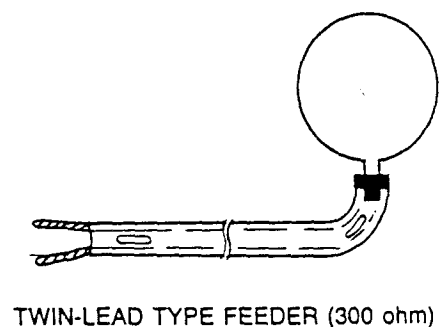

Figure 6
- In case of using the twin-lead type feeder (300 ohm) for UHF aerial, trim the lead as shown in figure 6 and connect the lead to the 300 ohm connector on the adaptor.